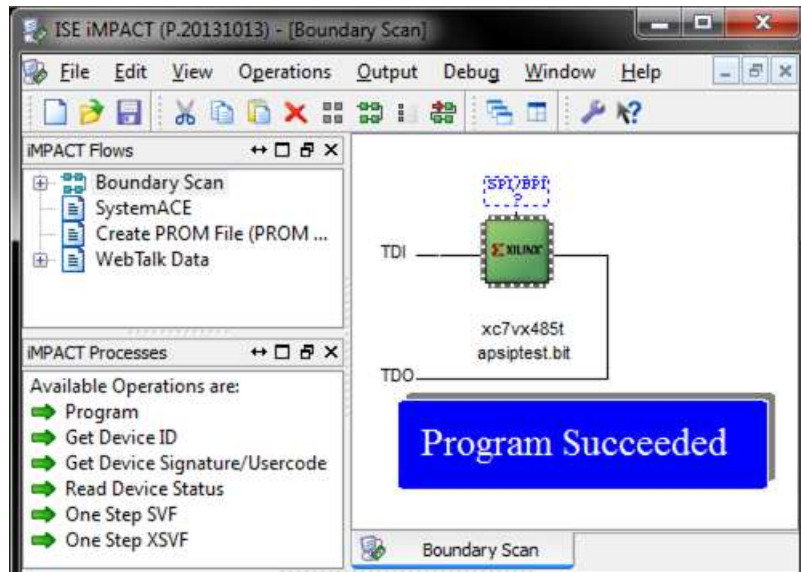
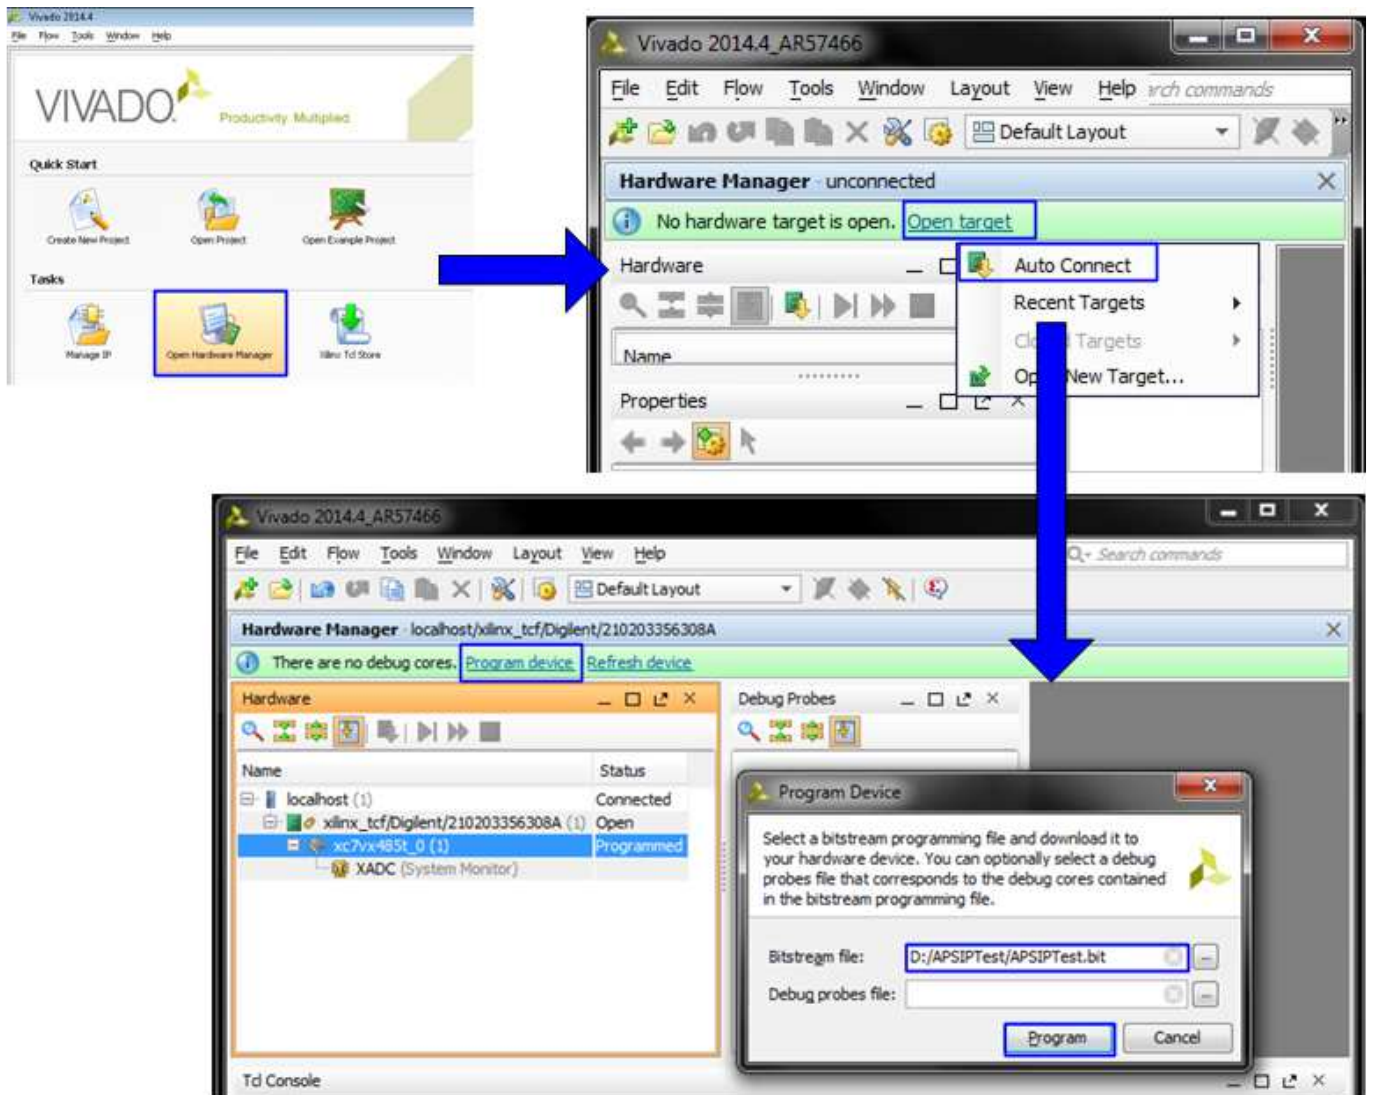

Figure 2-10 Programmed by iMPACT
Figure 2-11 Programmed by Vivado
b) For AC701/KC705/VC707/KCU105 board, use iMPACT or Vivado tool to program bit file, as shown in Figure 2-10 and Figure 2-11.